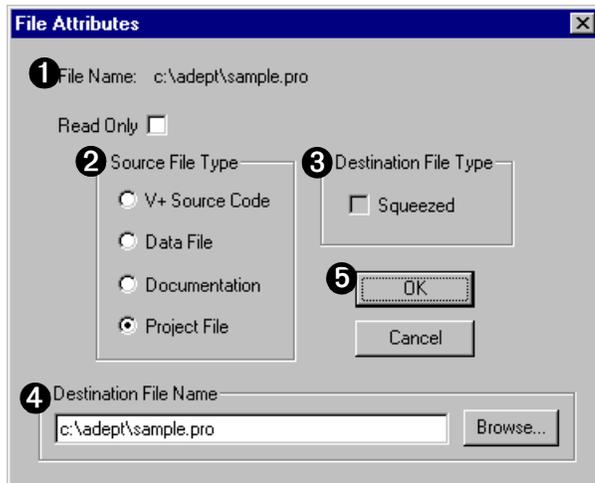

Figure 3-12
- ❼ Choose **Edit** to edit the selected file.
- ❽ Choose **Properties** to display the File Attribute dialog box for the selected file. See Figure 3-12 for details.